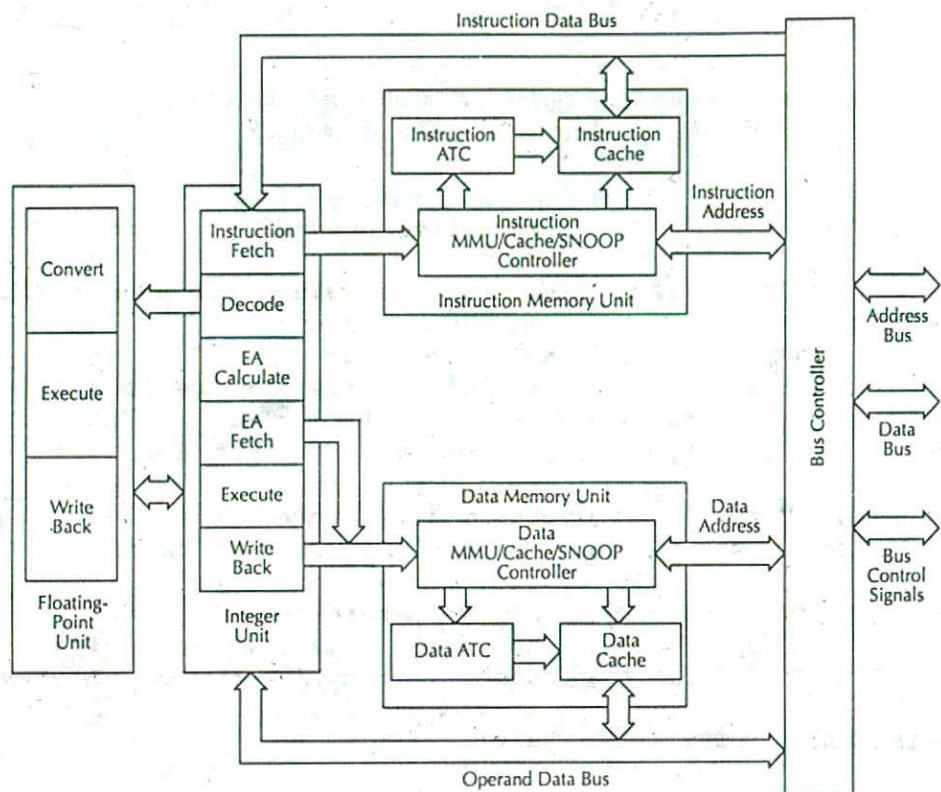
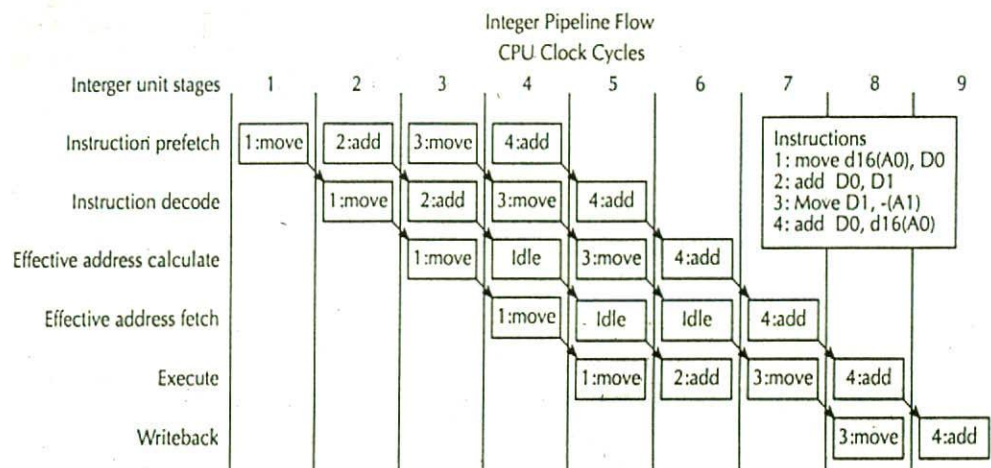

FIGURE 7.28 MC68040 block diagram.
FIGURE 7.29 Integer unit instruction pipeline.
Figure 7.28 shows a block diagram of the MC68040. Instruction execution is pipelined in both the Integer Unit (IU) and FPU, which interface to fully independent data and instruction memory units. In the MC68040, high-usage instructions (such as branch instructions) execute in a minimum number of clock cycles. In the development of the IU, Motorola ran thousands of real world code traces to determine which instructions were used most often. The integer pipeline consists of six stages: Instruction prefetch, Instruction decode, Effective address calculate, Effective address fetch, Execute and Writeback. The six-stage IU pipeline executes instructions at an average of 1.3 instructions/clock cycle: about 3 times faster than the 68030 IU. This approaches the one instruction/clock cycle execution rate of a RISC architecture; an outstanding accomplishment for a CISC architecture processor. Figure 7.29 depicts the instruction pipeline of the Integer Unit.